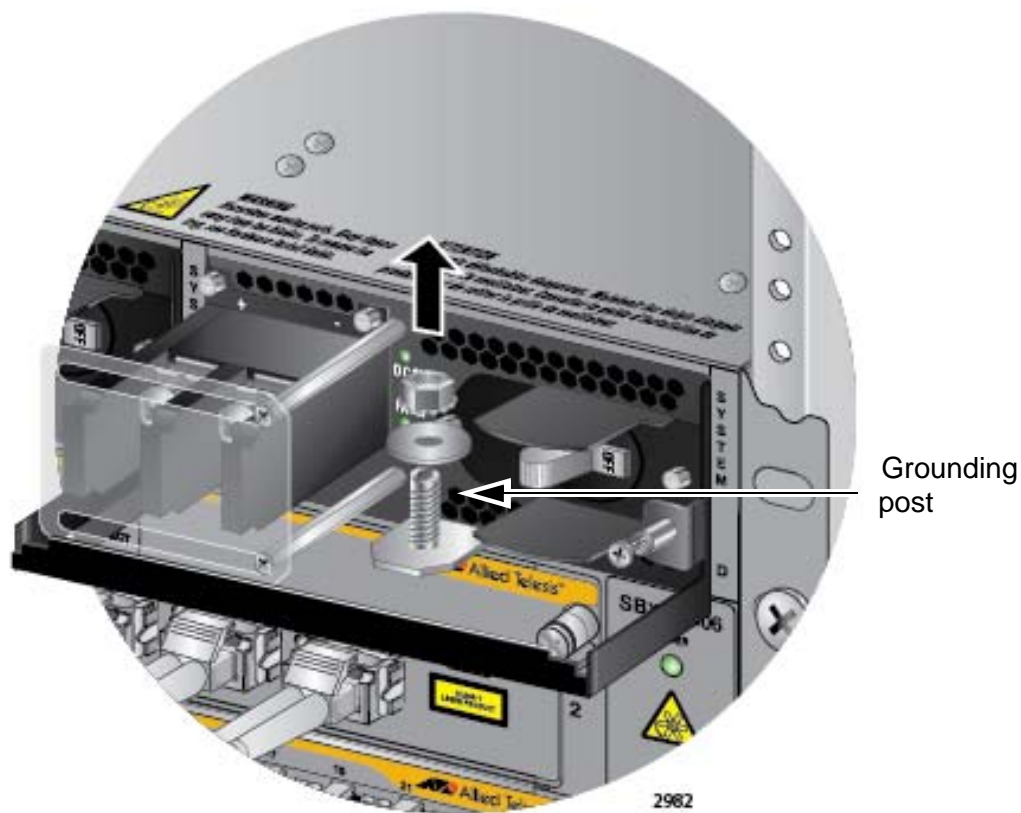

Figure 125. Removing the Nut and Washer from the Grounding Post
3. Use an 8 mm wrench to remove the grounding post nut and washer, shown in Figure 125, from the power supply.
2. Use an 8 mm wrench to remove the grounding post nut and washer, shown in Figure 125 on page 200, from the grounding post on the power supply.